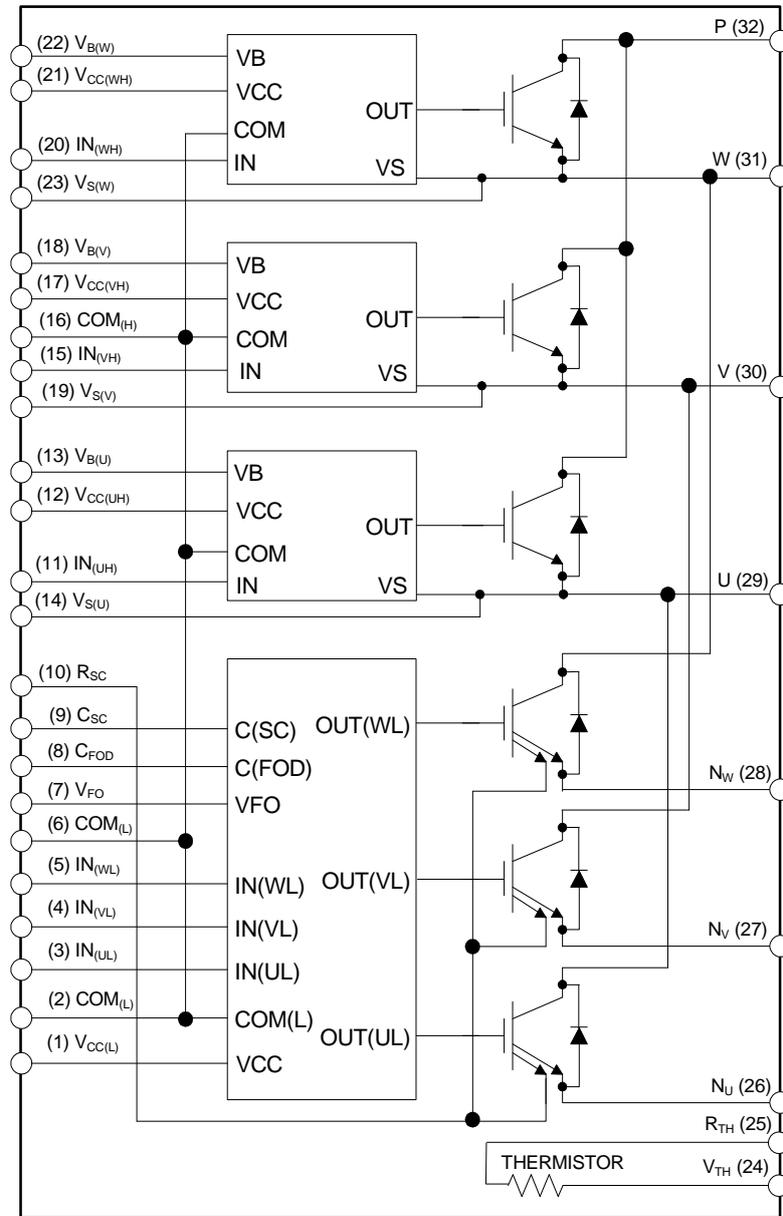

Figure 3. Internal Block Diagram
- 600V - 20 A IGBT inverter for three-phase DC / AC power conversion (please refer to Figure 3)